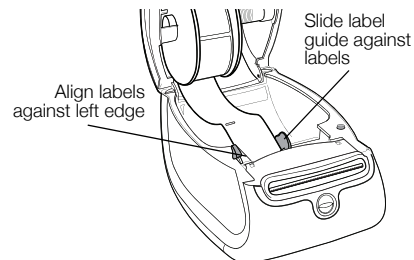

Figure 8
- The labels must be loaded with the left edge of the label inserted against the left edge of the label feed slot. See Figure 8.
- Align the left edge of the label with the left edge of the label feed slot and insert the label into the slot. See Figure 8.
- Slide the label guide to the left until the label guide aligns with the right edge of the label. See Figure 8.